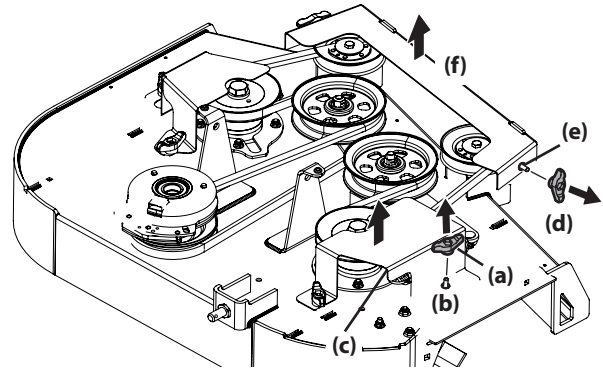

Figure 34
3. Remove the wing knobs (a) from the carriage screws (b) securing the side belt covers (c) to the deck and remove the side belt covers (Figure 34).
4. Remove the wing knobs (d) from the carriage screws (e) securing the front belt cover (f) to the deck and remove the front belt cover (Figure 34).